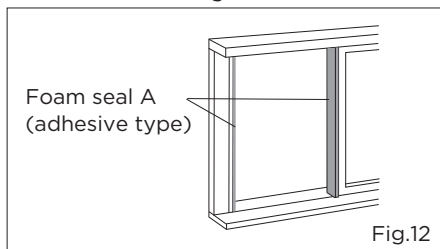

Fig.12
1. Cut the foam seals A (adhesive type) to the proper lengths and attach them to the window frame. See Fig.12.